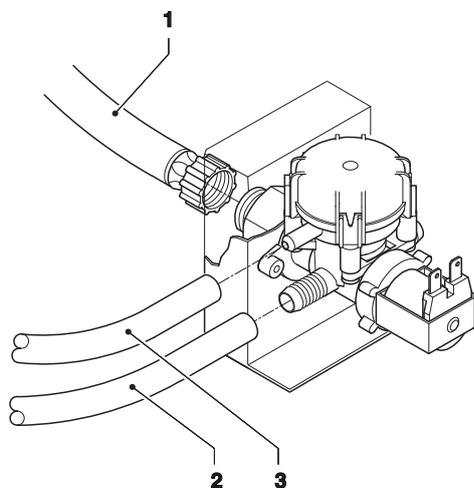

Fig. 17
Connect the water mains to the $\frac{3}{4}$ " gas connection of the water inlet solenoid valve (see Fig. 17) with a pipe having minimum internal diameter of 6 mm (also available as a kit), suitable for supporting the mains pressure and of a type suitable for food products.
The water inlet solenoid valve (see Fig. 17) is equipped with an anti-flooding device which allows the mechanical blocking of the input of water following a malfunction of the solenoid valve or of the control system of the level of water in the boiler.
- loosen the connection which fixes the input pipe of the solenoid valve for lowering the residual water pressure and tighten it again (see Fig. 17);